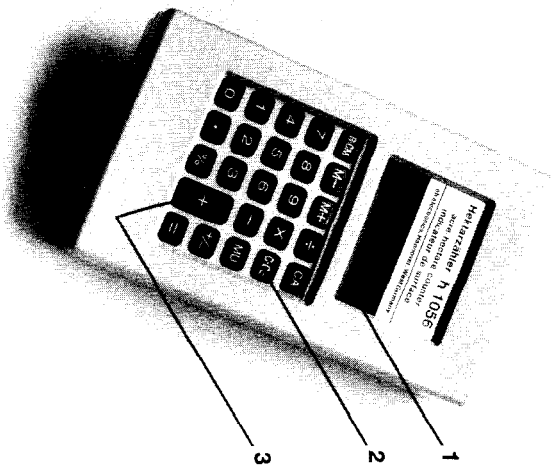

Fig. 4
Power is supplied to the h 1056 from the two 1.5 V batteries. The h 1056 is not connected to the tractor battery but is totally self-contained. The batteries are fitted into the back of the hectare meter by sliding off the cover in the direction of the arrow. When the batteries are correctly fitted the display will register the figure "0" (Fig. 4/1).
- immediately before work press button **C/CE** (Fig. 4/2)
- press the button **+** (Fig. 4/3)